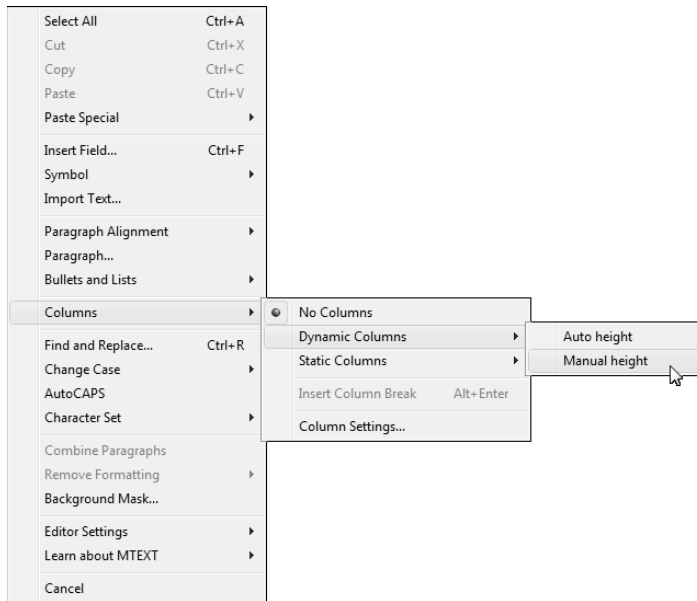

Figure 13-5:
10. If you want other formatting options, select text, right-click, and make an appropriate choice from the menu (as shown in Figure 13-5).